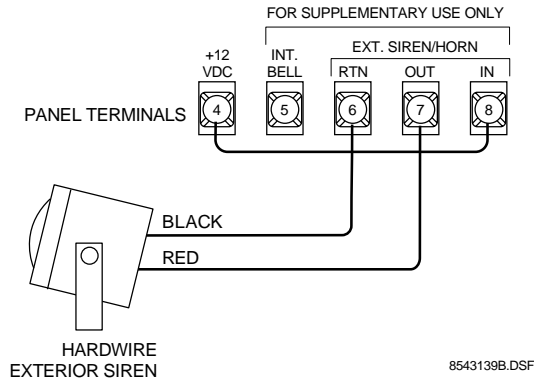

Figure 20. Connecting the Hardwire Exterior siren to the Panel (partition/area 1)
Connect a listed exterior siren for partition/area 1 to the panel as shown in Figure 20. Interior and exterior sirens for other partitions/areas must be mapped to SnapCard, Super-Bus module or panel onboard outputs. Refer to program item 50005 on page 37.